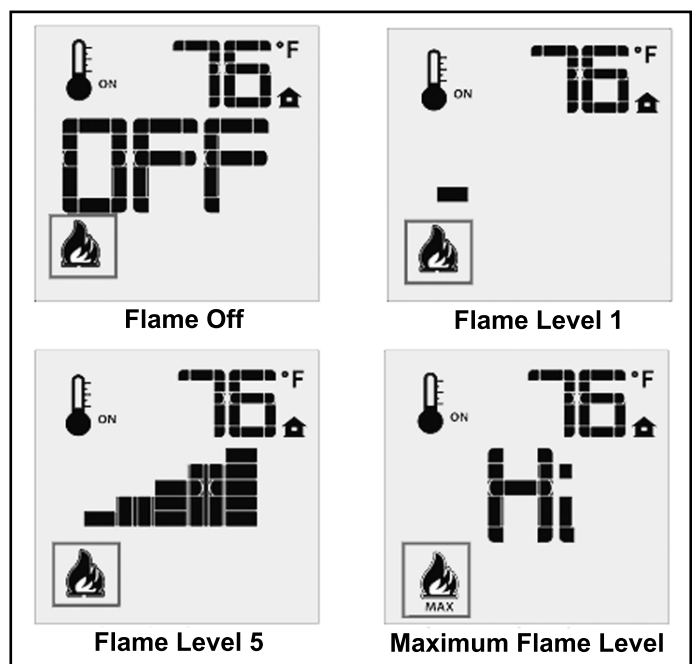

Figure 11: Remote Control's Flame Levels.
The Proflame 2 remote control system has six (6) flame levels. With the system on, and the flame level at the maximum in the appliance, pressing the Down Arrow Key once will reduce the flame height by one step until the flame is turned off. The Up Arrow Key will increase the flame height each time it is pressed. If the Up Arrow Key is pressed while the system is on but the flame is off, the flame will come on in the high position (refer to Figure 11). A single "beep" will confirm reception of the command.